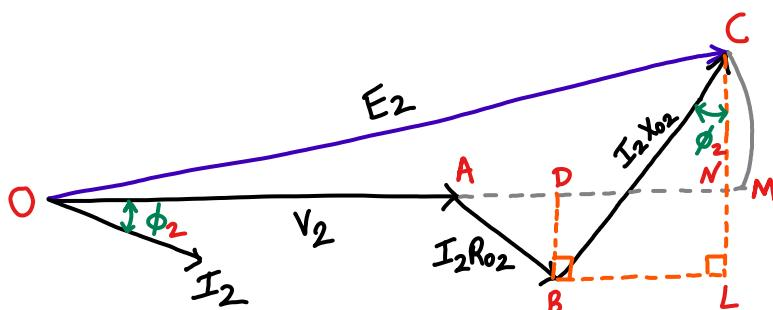

fig2: Modified Phasor diagram
④ In order to find out approximate formula for voltage regulation → Phasor diagram is modified as shown in fig 2